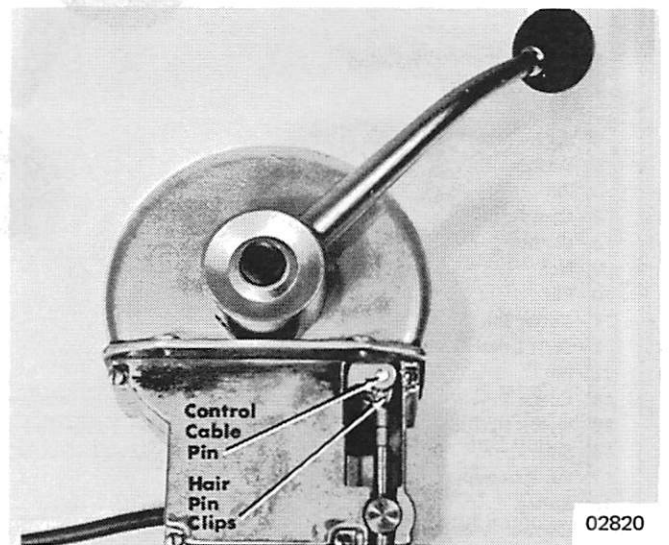

Figure 3. Cables Installed
3. Control cables are held in place with pins and hair pin clips. (Figure 3)